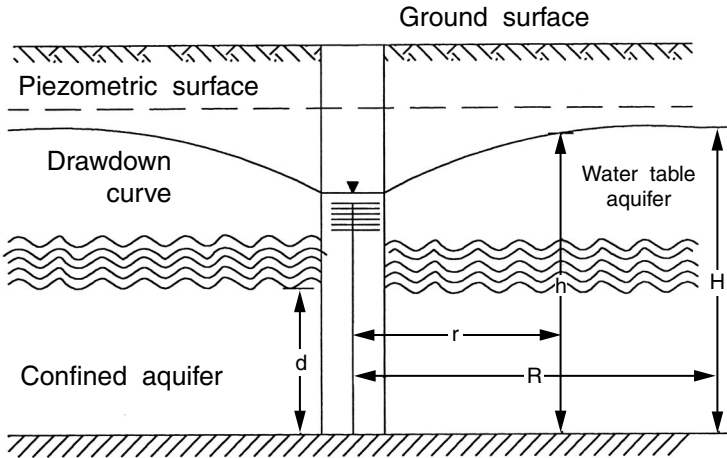

FIGURE T-1 Theim equation for confined flow.
**Theim equation** An equation used for the study of steady flow to a fully penetrating well through a confined aquifer of constant thickness and infinite extent. It applies Darcy's law and assumes horizontal flow with a velocity proportional to the tangent (instead of the sine) of the hydraulic gradient. It is widely used in assessing an aquifer's hydraulic characteristics from field test results or in determining the discharge of a well if the hydraulic conductivity is known. See Dupuit equation; Figure T-1; and well flow equations. The Theim equation is usually written as follows: